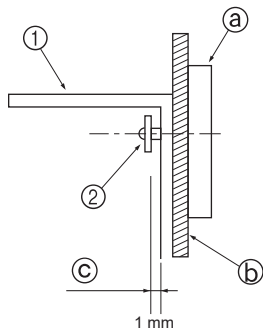

Fig. 3-4
- First, mount the bracket on the wall and then tighten the screw so that the bracket can slide up and down. (Fig. 3-4)
① Tip-over prevention bracket
② Tapping screw